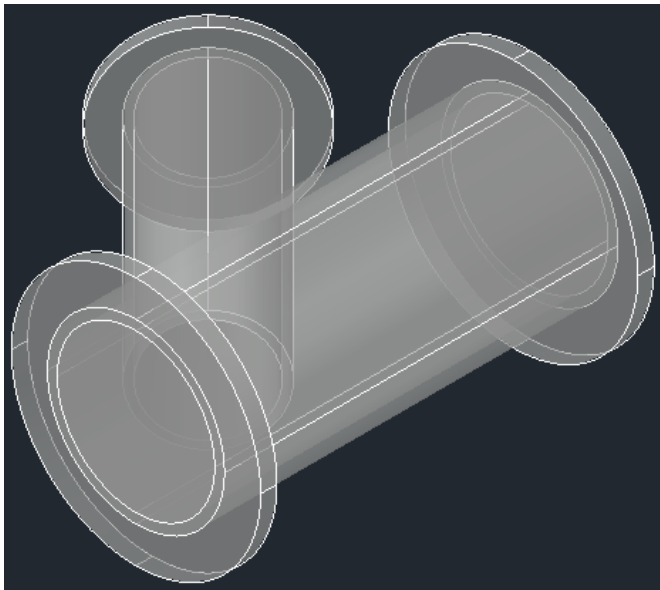

Figure 7.8 – Result after copying flanges to pipes
6. Using the AutoCAD MOVE command, let's now move the 3D flange cylinders over to each of the ends of our 3D pipe cylinders, with the result looking similar to that displayed in *Figure 7.8*.